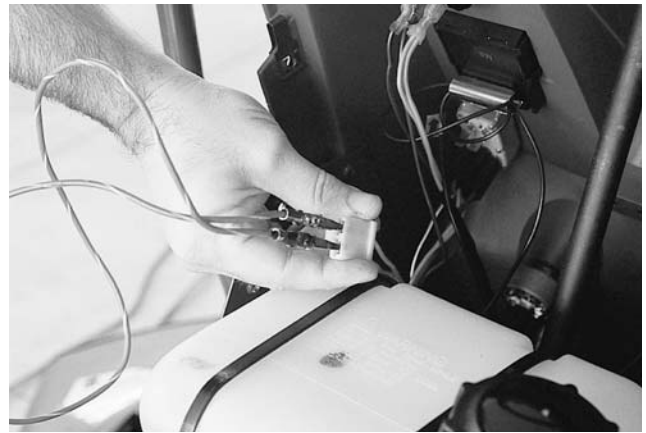

Figure 3-34.
18. If you have an electric PTO, remove the connector from the PTO switch. Jump between the two orange terminals. If the unit now cranks, replace the PTO switch. See Figure 3-34.